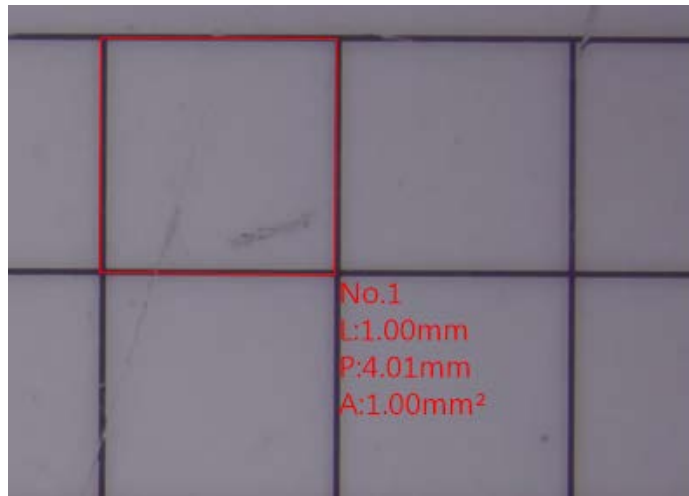

Fig. 5-7 Square measurement
- (3) Square : The object is regular quadrilateral that can apply  tool. Draw from any corner toward Diagonal direction as a square. In the Fig. 5-7, square circumference is  $P=4.01\text{mm}$ , one side is  $L=1.00\text{mm}$  and area is  $A=1.00\text{mm}^2$ .